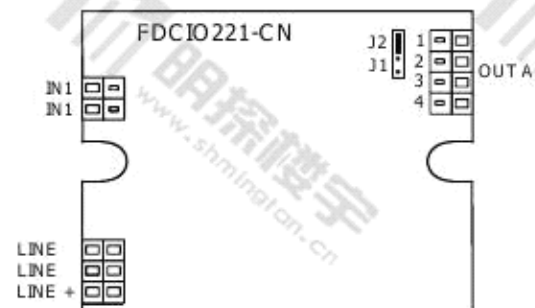

Fig. 13
1. Connect the cables to the terminals as shown in the connection diagram (Fig. 13).